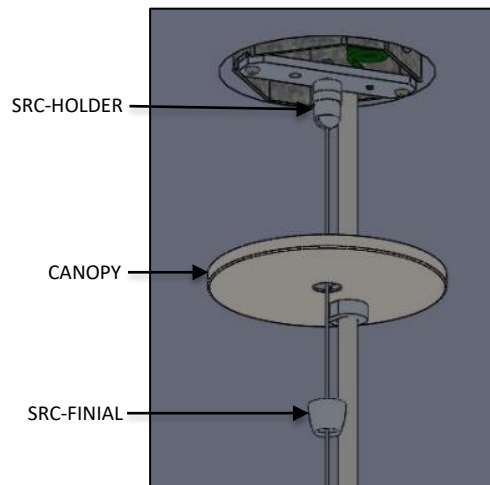

FIG. 26 – FINIAL INSTALLATION
24. Raise CANOPY and secure to ceiling by threading the SRC-FINIAL to SRC-HOLDER.as shown below in FIG.26.